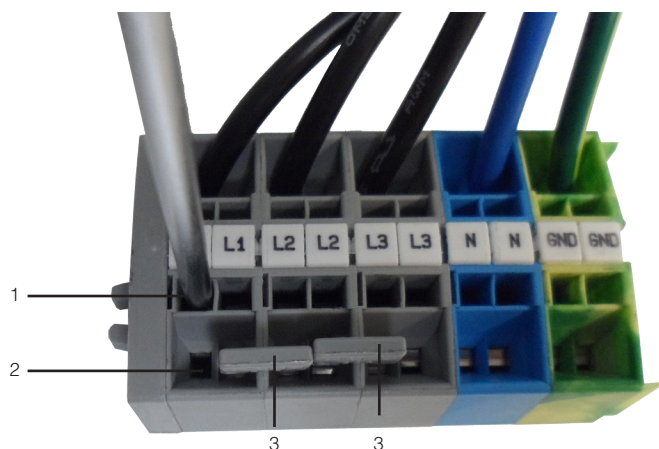

Fig. 41: Connector - rear
- Insert a suitable screwdriver (blade size 3.5 x 0.5 mm) into an activation opening (Fig. 41, item 1) and open the corresponding terminal connection of the conductor entry (Fig. 41, item 2).
- Remove jumpers (Fig. 41, item 3).
- Trim the neutral conductor (N) and the three phase conductors (L1, L2, and L3) to a length of approximately 35 mm. Leave the length of the PE conductor at approximately 45 mm.